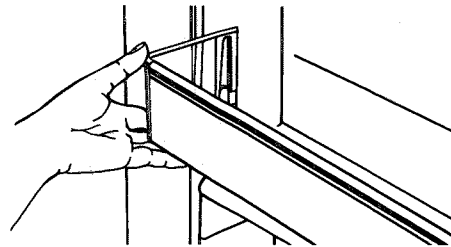

Figure 22
c. Pull shelf straight up. See Figure 22.